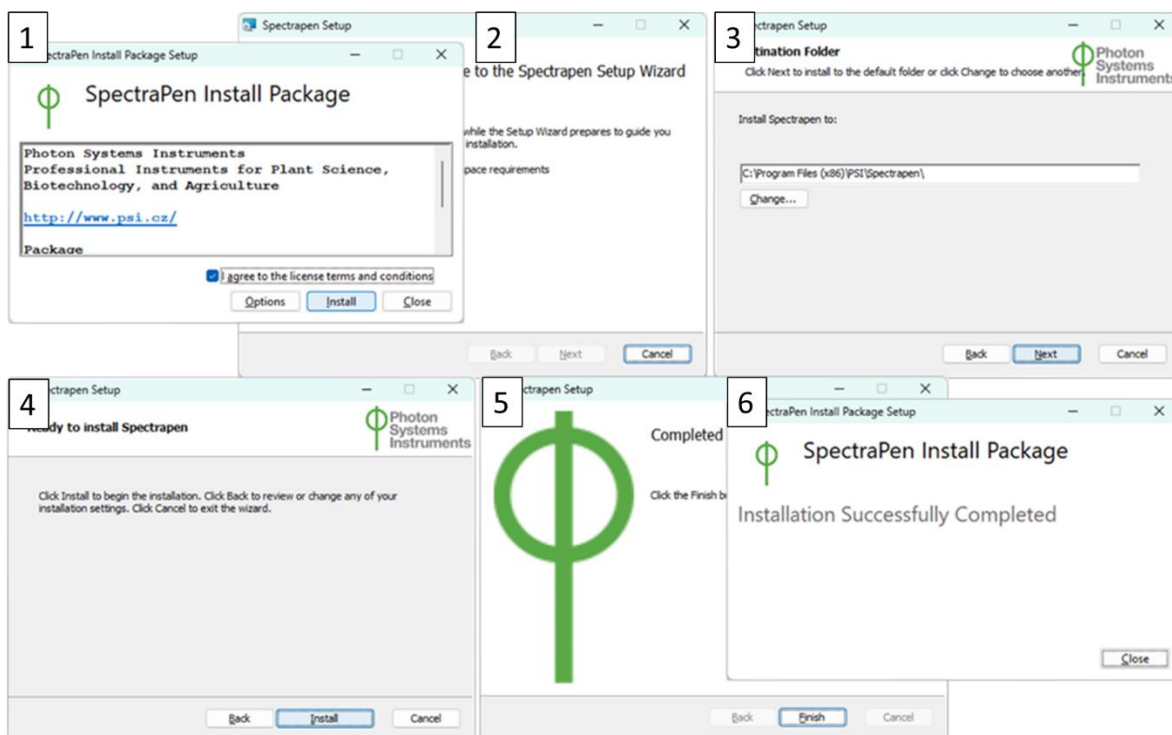

Fig. 11 Spectrapen installation procedure
2. **Run the installer file** Select the exe file and then select *Open* from the menu after right mouse clicking. Alternatively double click the exe file (Fig. 11) with the left mouse button.
3. **SpectraPen Install Package wizard opens.** Proceed through the steps as is shown in Fig. 11. The Spectrapen app will be stored locally (*C:\Program Files (x86)\PSI\Spectrapen* by default). The USB driver will be updated and a SpectraPen shortcut icon will appear on the desktop.